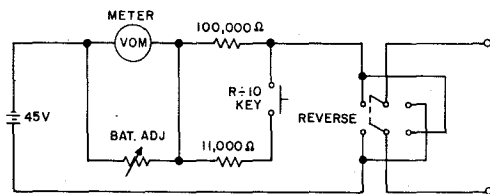

Fig. 3—1 Ohmmeter Circuit—ON-OFF Switch at ON Position
2.04 Fig. 3 is a simplified schematic diagram of the ohmmeter circuit for which the ON-OFF switch must be in the ON position.